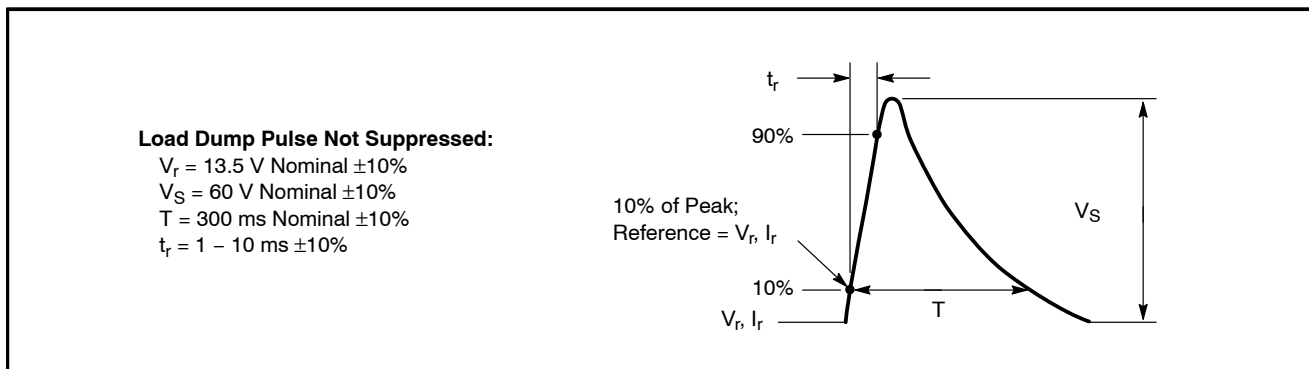

Figure 3. Load Dump Waveform Definition
4. Nonrepetitive load dump pulse per Figure 3.